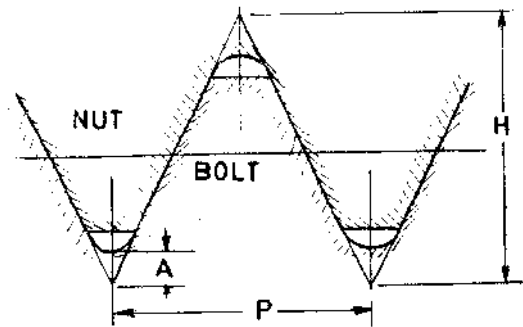

Fig.5.2.
5. Fig. 5.2 shows the design profile of nut and bolt of ISO Metric thread. Dimension A =